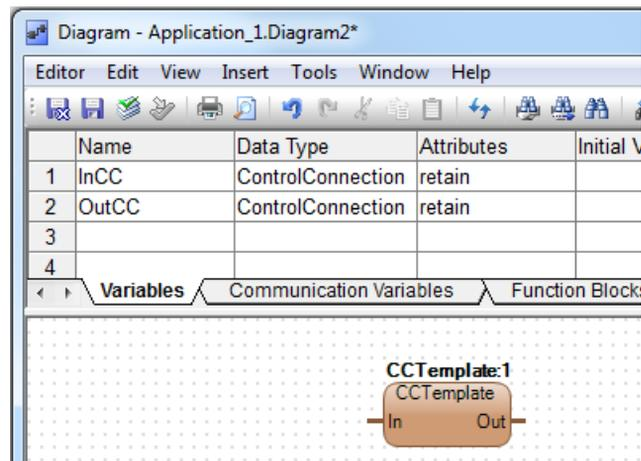

Figure 45. CCTemplate inserted in the graphical code block
- c. Click **Insert**. The CCTemplate control module is inserted as shown in Figure 45.